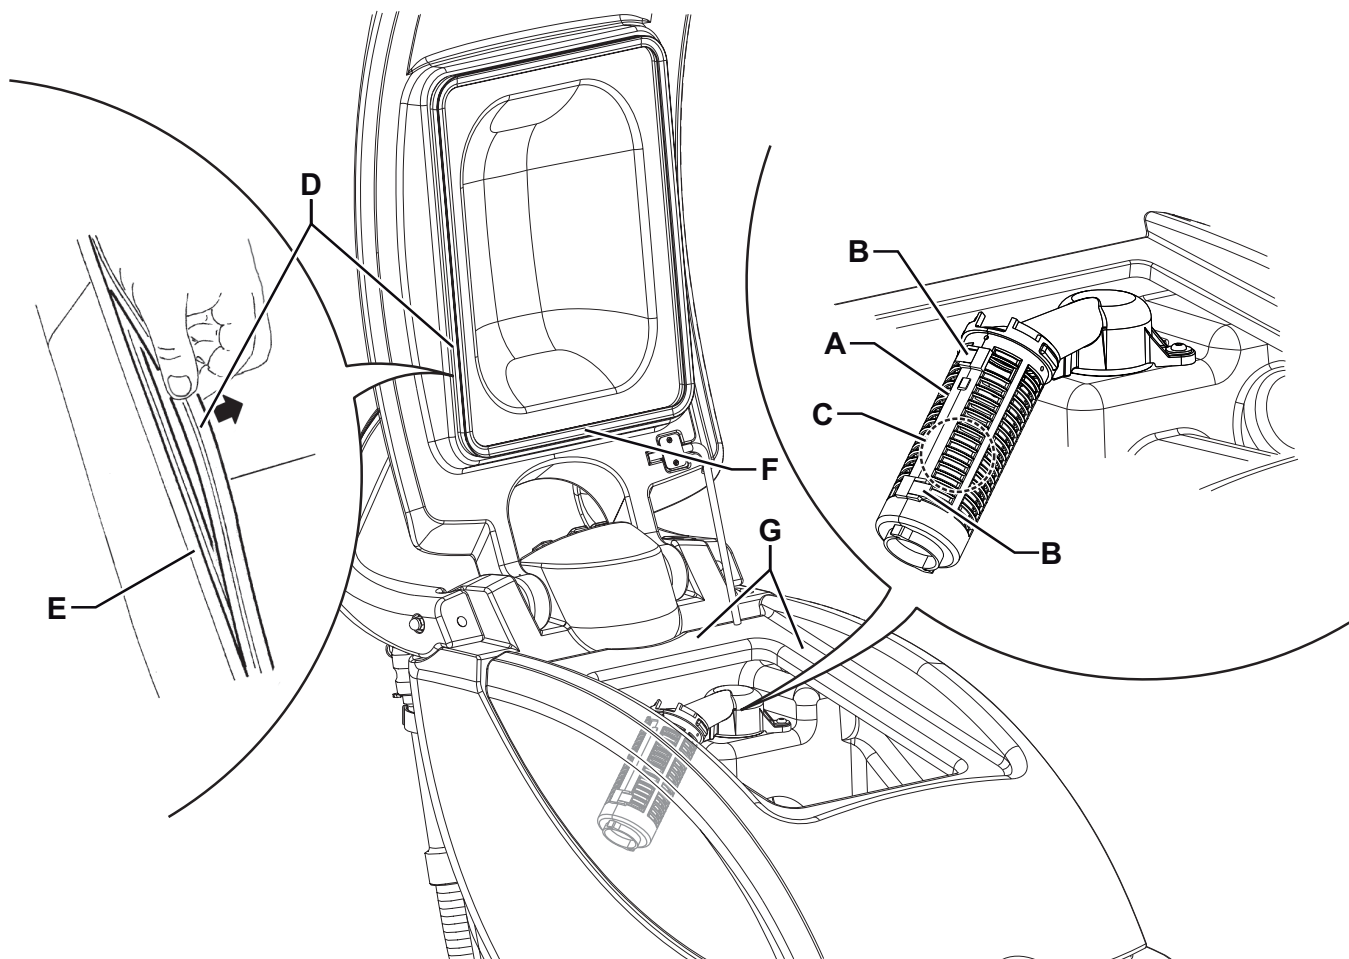

Figure 6
2. Make sure that the power supply cable plug (21) is disconnected from the electrical mains.
3. Open the recovery water cover (31), then clean and wash the cover, the tanks (27 and 28) and the vacuum grid (36) with clean water. Drain the water from the tanks with the drain hose (16) and the hose (18).
4. If necessary, release the fasteners (B, Fig. 6) and open the grid (A); recover the float (C), clean all the components and then reinstall them.
5. Check the recovery tank cover gasket (D) for integrity.